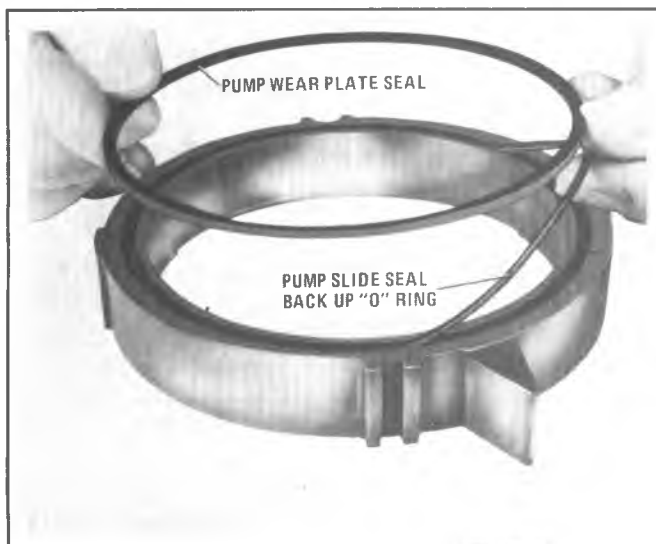

Figure 7A6-209 Installing Slide Seal
6. Install a vane ring in the pump pocket (Figure 7A6-201).